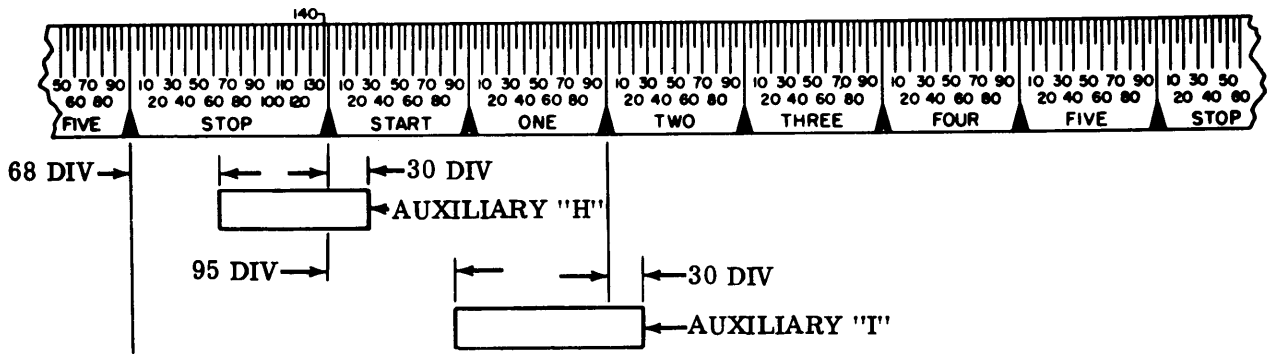

Figure 6 - Distributor Auxiliary "H" and "I" Contacts
3.12 Distributor Auxiliary Contacts "H" and "I" (Figure 6):